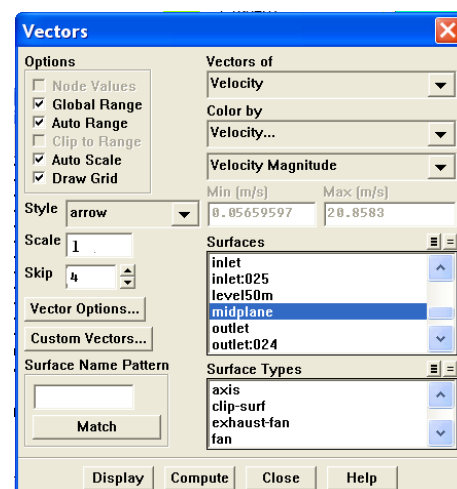

Fig.22 Contours of static temperature.
- (a) On the **Vectors** panel, enable **Draw Grid** under **Options**; Key in 4 for **Skip** (see Fig. 22).
- (b) Select 'midplane' under **Surfaces** (see Fig. 22).